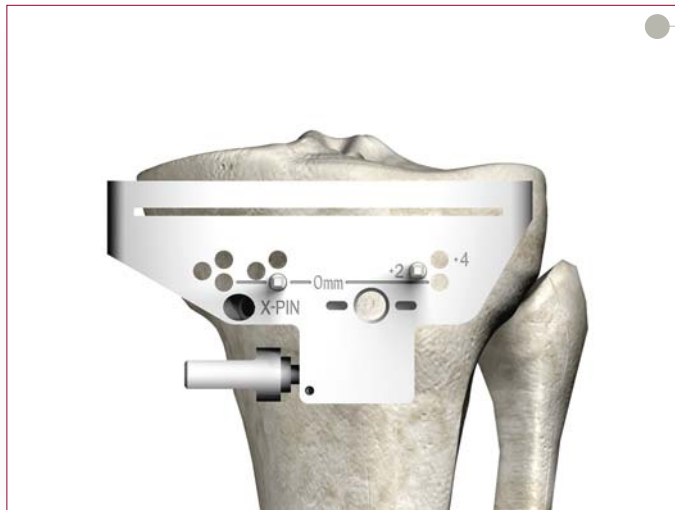

Figure 45
- ▶ If desired, 2mm or 4mm of additional bone may be resected by repositioning the guide over the pins through the +2 or +4 holes respectively (Figure 45).